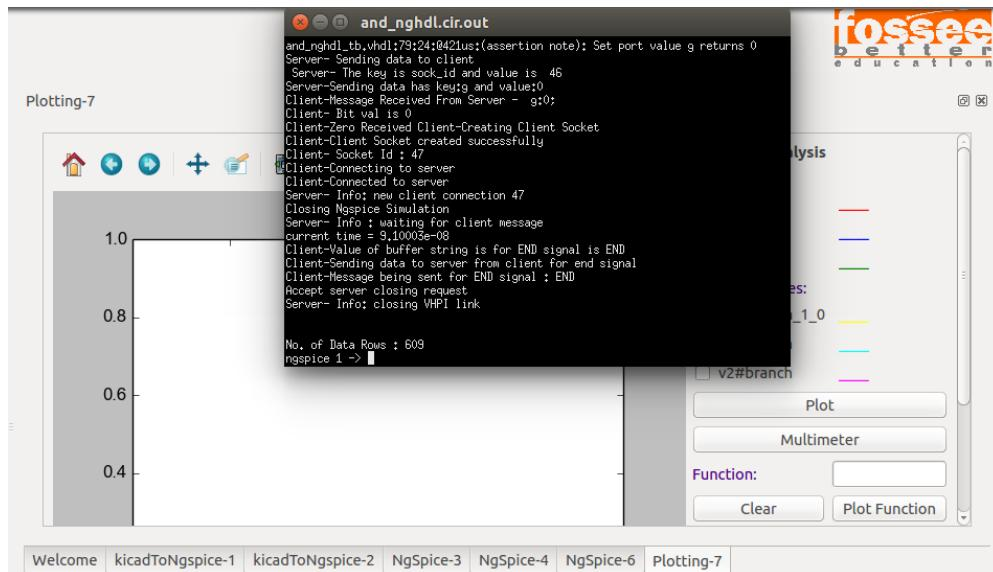

Figure 10.16: Simulation window
8. Now click on **Simulation** button, it will display the following windows as shown in Fig. 10.16. This is the Ngspice terminal and Python plot window.